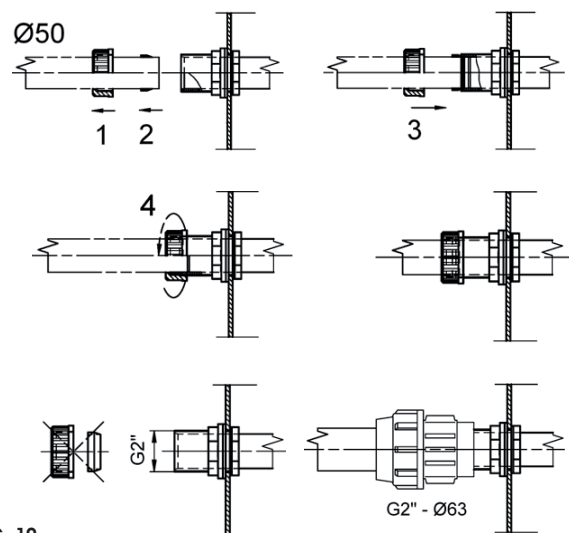

FIG. 10
- Secure the discharge duct using the coupling provided or threaded couplings (See FIG. 10 below and accessories); it must be protected from frost.